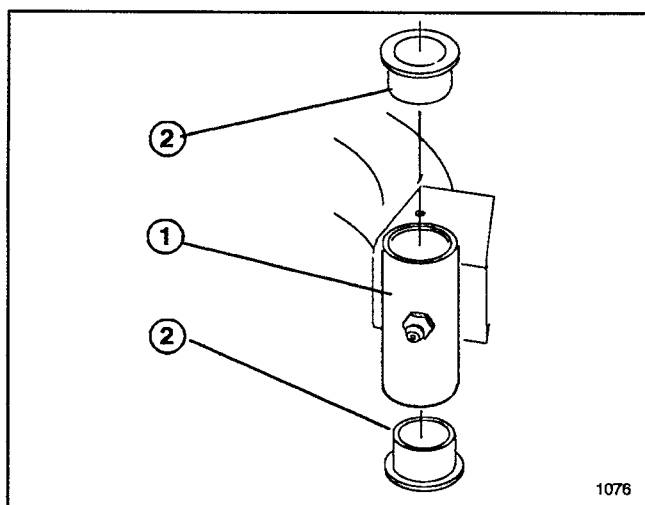

Figure 12
2. Remove lynch pin and thrust washer(s) from top of castor spindle (Fig. 12).
4. Insert pin punch into mounting tube and drive out bushings (Fig. 12). Clean inside mounting tube.